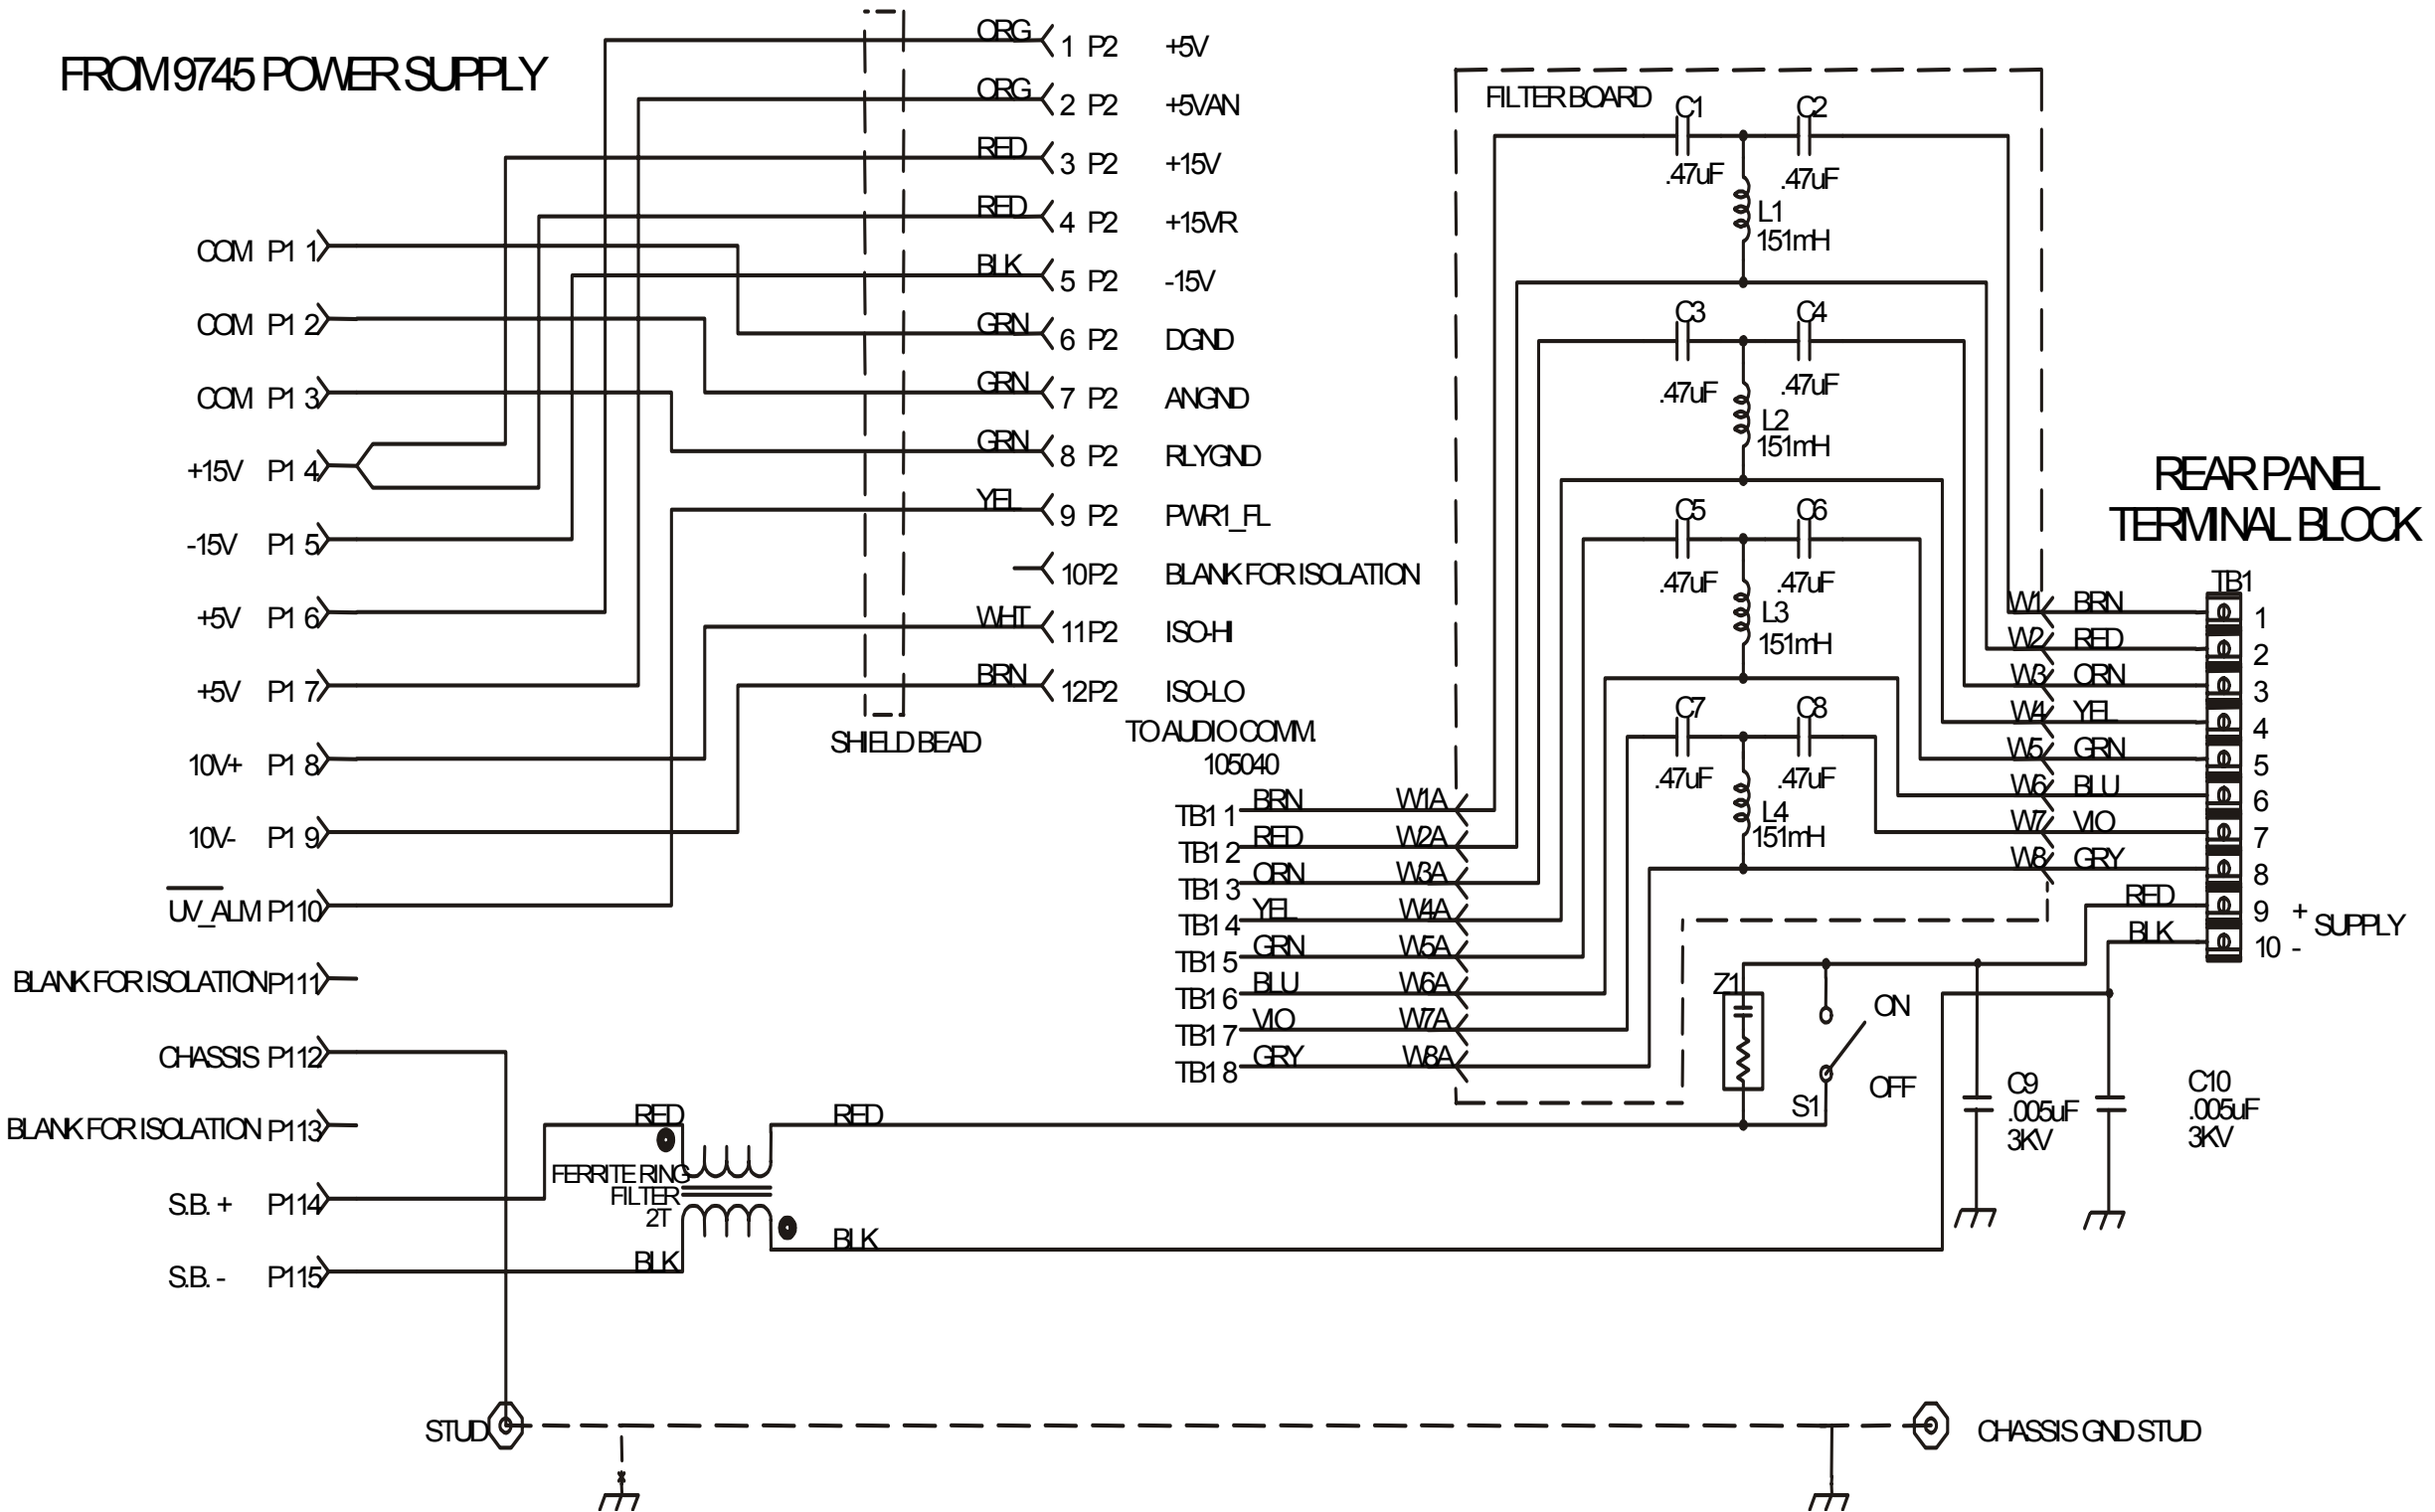

Figure 13-2. Schematic Diagram, 9745 Power I/O, Quad Filter Module (Drawing No. D-105154-1-D)
2. Figure 13-2. Schematic Diagram, 9745 Power I/O, Quad Filter Module (Drawing No. D-105154-1-D)